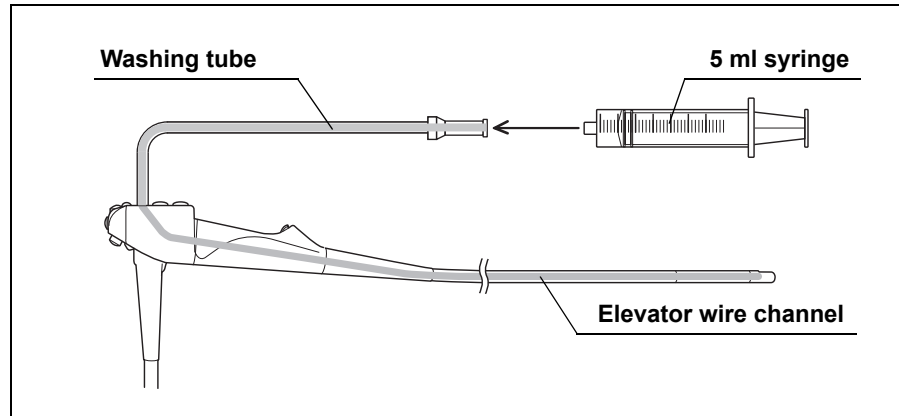

Figure 5.56
7. Fill and attach a clean 5 ml syringe to the Luer port of the washing tube and flush the elevator wire channel with 5 ml of water (see Figure 5.56).
9. Fill and attach a clean 5 ml syringe to the Luer port of the washing tube and flush the elevator wire channel with 5ml of water (see Figure 5.56).
22. Fill and attach a clean 5 ml syringe to the Luer port of the washing tube and flush the elevator wire channel with 5 ml of air (see Figure 5.56).
24. Fill and attach a clean 5 ml syringe to the Luer port of the washing tube and flush the elevator wire channel with 5 ml of air (see Figure 5.56).
1. Fill and attach a clean 5 ml syringe to the Luer port of the washing tube and forcefully flush the elevator wire channel with 10 ml of the disinfectant solution. Confirm that no air bubbles exit the distal end of the endoscope's insertion section during the second flush. If air bubbles still exit, flush the channel with the disinfectant solution until no air bubbles exit (see Figure 5.56).
3. Fill and attach a clean 5 ml syringe to the Luer port of the washing tube and forcefully flush the elevator wire channel with 10 ml of the disinfectant solution. Confirm that no air bubbles exit the distal end of the endoscope's insertion section during the second flush. If air bubbles still exit, flush the channel with the disinfectant solution until no air bubbles exit (see Figure 5.56).
12. Fill and attach a clean 5 ml syringe to the Luer port of the washing tube and forcefully flush the elevator wire channel with 10 ml of the disinfectant solution – i.e., by pumping the syringe at least two times. Confirm that no air bubbles exit the distal end of the endoscope's insertion section during the second flush. If air bubbles still exit, flush the channel with the disinfectant solution until no air bubbles exit (see Figure 5.56).
14. Fill and attach a clean 5 ml syringe to the Luer port of the washing tube and forcefully flush the elevator wire channel with 10 ml of the disinfectant solution – i.e., by pumping the syringe at least two times. Confirm that no air bubbles exit the distal end of the endoscope's insertion section during the second flush. If air bubbles still exit, flush the channel with the disinfectant solution until no air bubbles exit (see Figure 5.56).